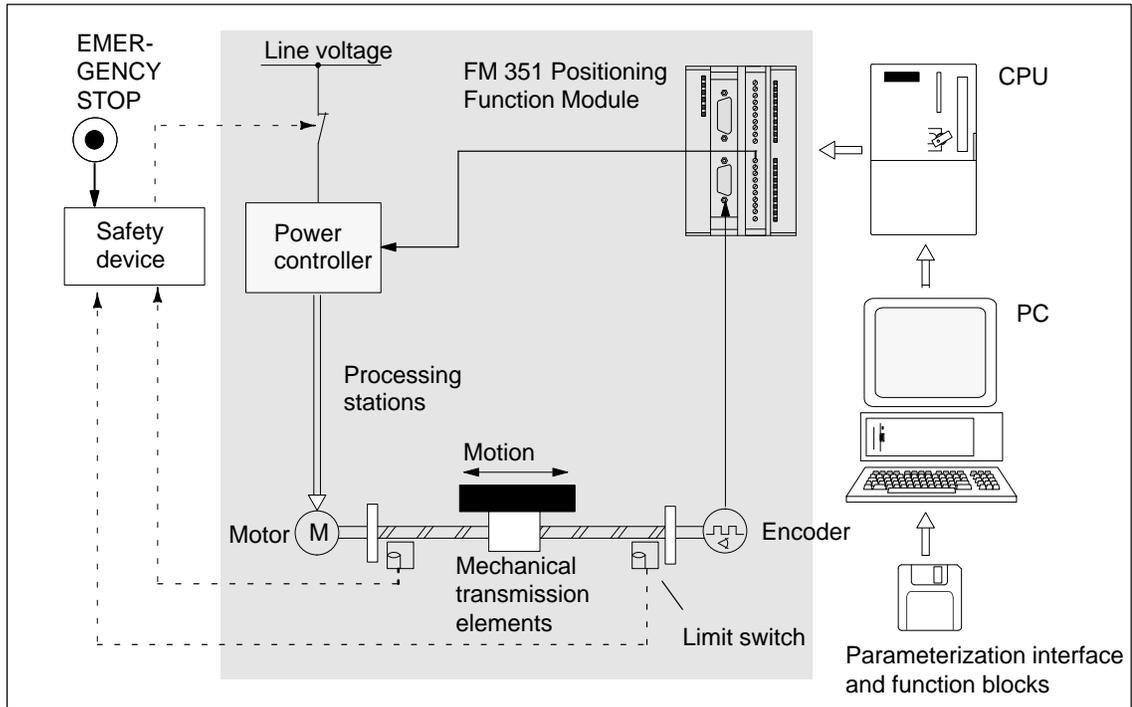

Figure 1-4 Electronic Cam Controller
**Control Circuit** In Figure 1-4 you can see the control circuit and components of an open-loop positioning system.